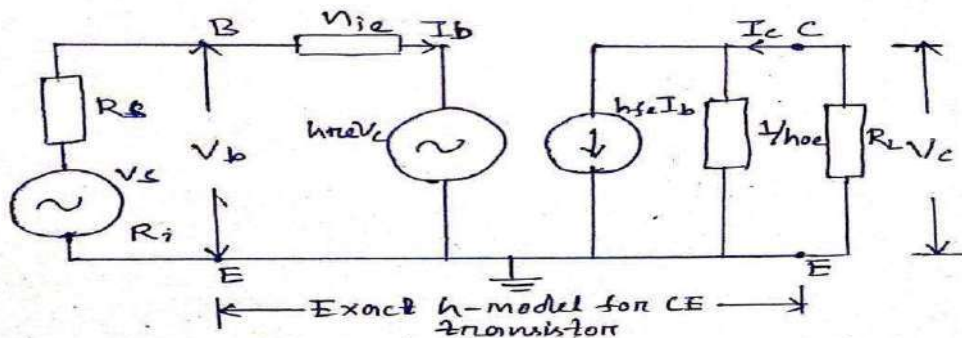

Figure 1: Equivalent circuit using exact h model
Figure 1 gives the equivalent circuit of CE amplifier using exact h-model for CE transistor.
**Output resistance  $R_0$ :** From this approximate equivalent circuit of figure 1(b) with  $V_s = 0$  and with external voltage source connected across the output, we get  $I_b = 0$  and therefore  $I_c = 0$ . Hence output resistance  $R_0 = \infty$ . However, in actual practice,  $R_0$  lies between  $40k\Omega$  and  $80k\Omega$  depending on the value of  $R_s$ .